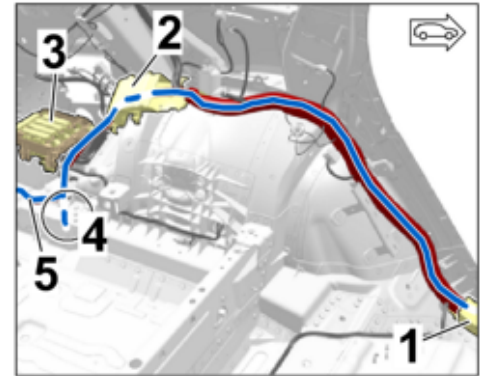

Figure 25
3.2.3 Wheel housing area. left (⇒ Figure 25)